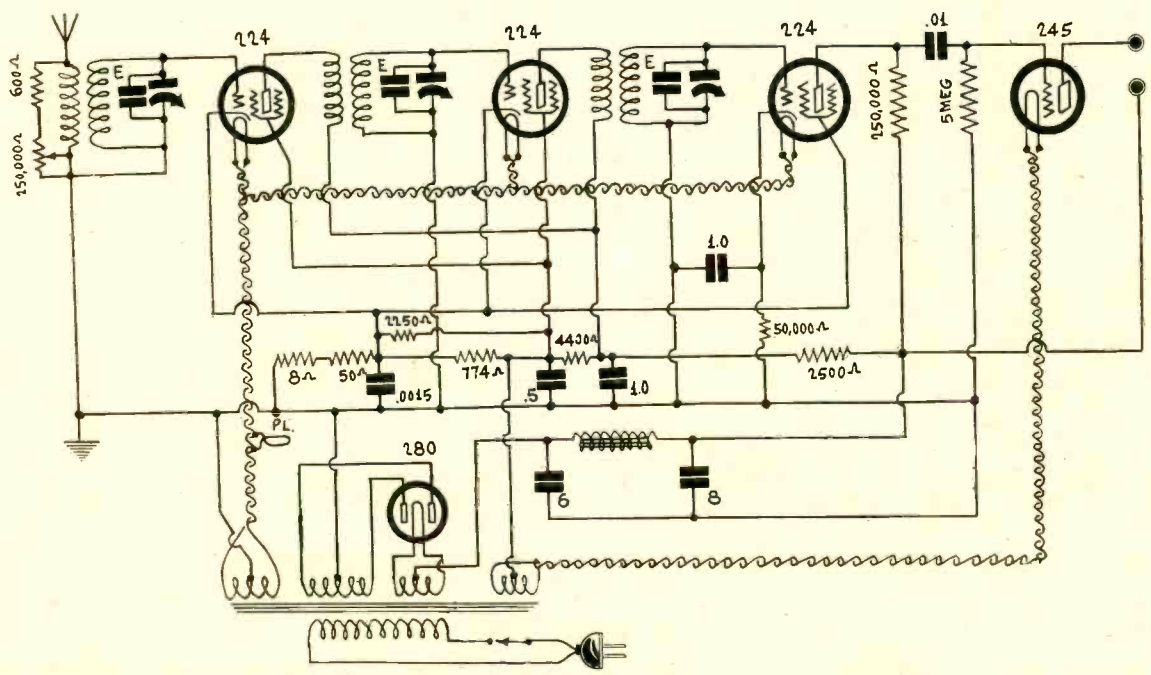

Fig. 1.
**I**N building a midget receiver if you desire to use an external reproducer, perhaps one that you have, your set will be the better for it, because of more room afforded for the receiver proper. Therefore the design shown in Fig. 1 was selected, embodying a circuit that renders excellent performance, and yet yields to requirements of compactness without adverse crowding. One of the first thoughts that will strike a person who looks at the diagram is that there is only one stage of audio frequency amplification, and that it is resistance-coupled at that. One might assume that there would not be enough volume to work the reproducer.